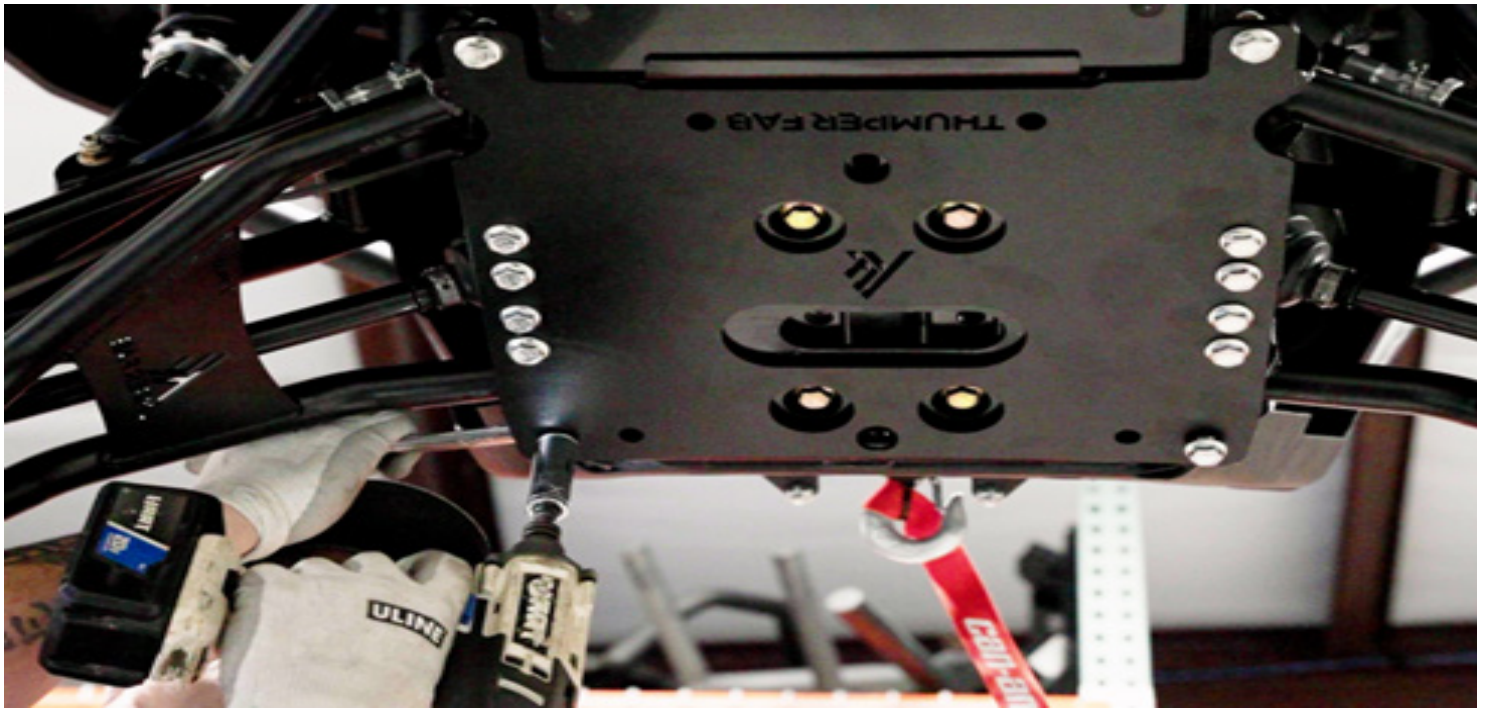

FIG 7 - Fasten M10-1.5x25mm Flange Head Bolts using 15mm Socket and 15mm Wrench
Loosley fasten the main plate to the front of the frame using 2 x M10-1.5x25mm flange head bolts (A) using 15mm socket and 15mm wrench (**FIG 7**).